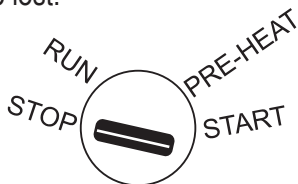

Figure 39. Ignition/Starter Switch (Stop)
4. Turn the ignition key counterclockwise to the **STOP** position (Figure 39). When the engine has stopped, remove the key. Place the key in a safe place where it will not be lost.
2. Turn the ignition key counterclockwise to the **STOP** position (Figure 39).